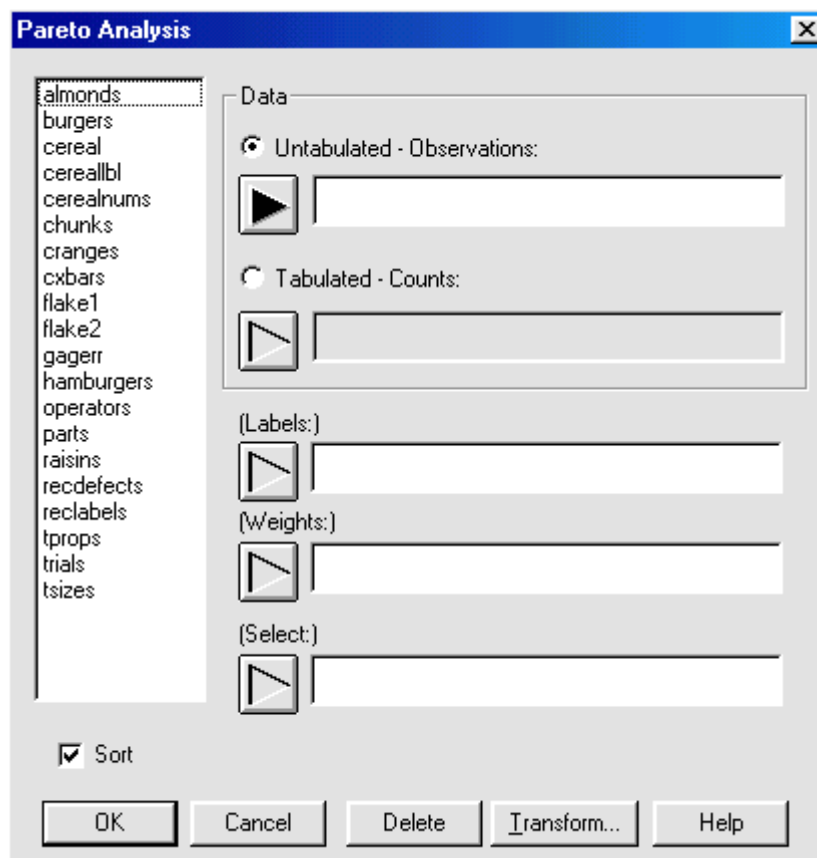

Figure 1-1. Pareto Analysis Dialog Box
1. Choose SPECIAL... QUALITY CONTROL... PARETO ANALYSIS... from the Menu bar to display the Pareto Analysis dialog box shown in Figure 1-1.